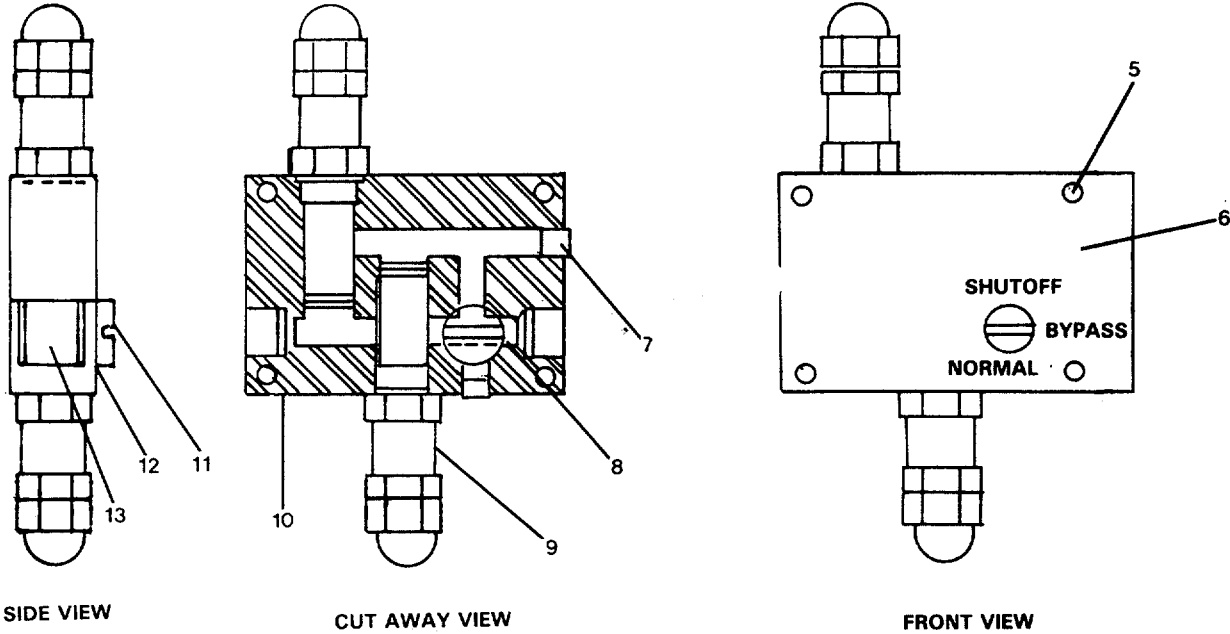

FIGURE 3-5. Relief/Bypass/Shutoff Valve.
**3-13. Replace/Repair Relief/Bypass/Shutoff Valve. (FIGURE 3-5)'**